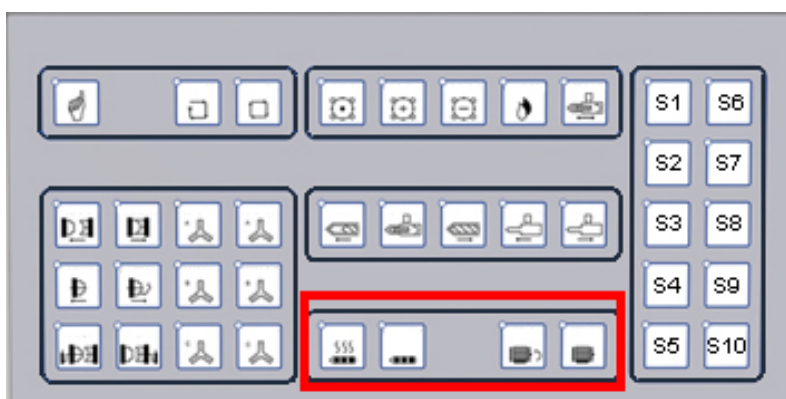

图 5.2.6 (2)
(2) Force electricity
Under the situation that all I/O signals are normal, turn on two buttons **【heat on】** and **【motor on】** on the keyboard. See fig 5.2.6 (2) .